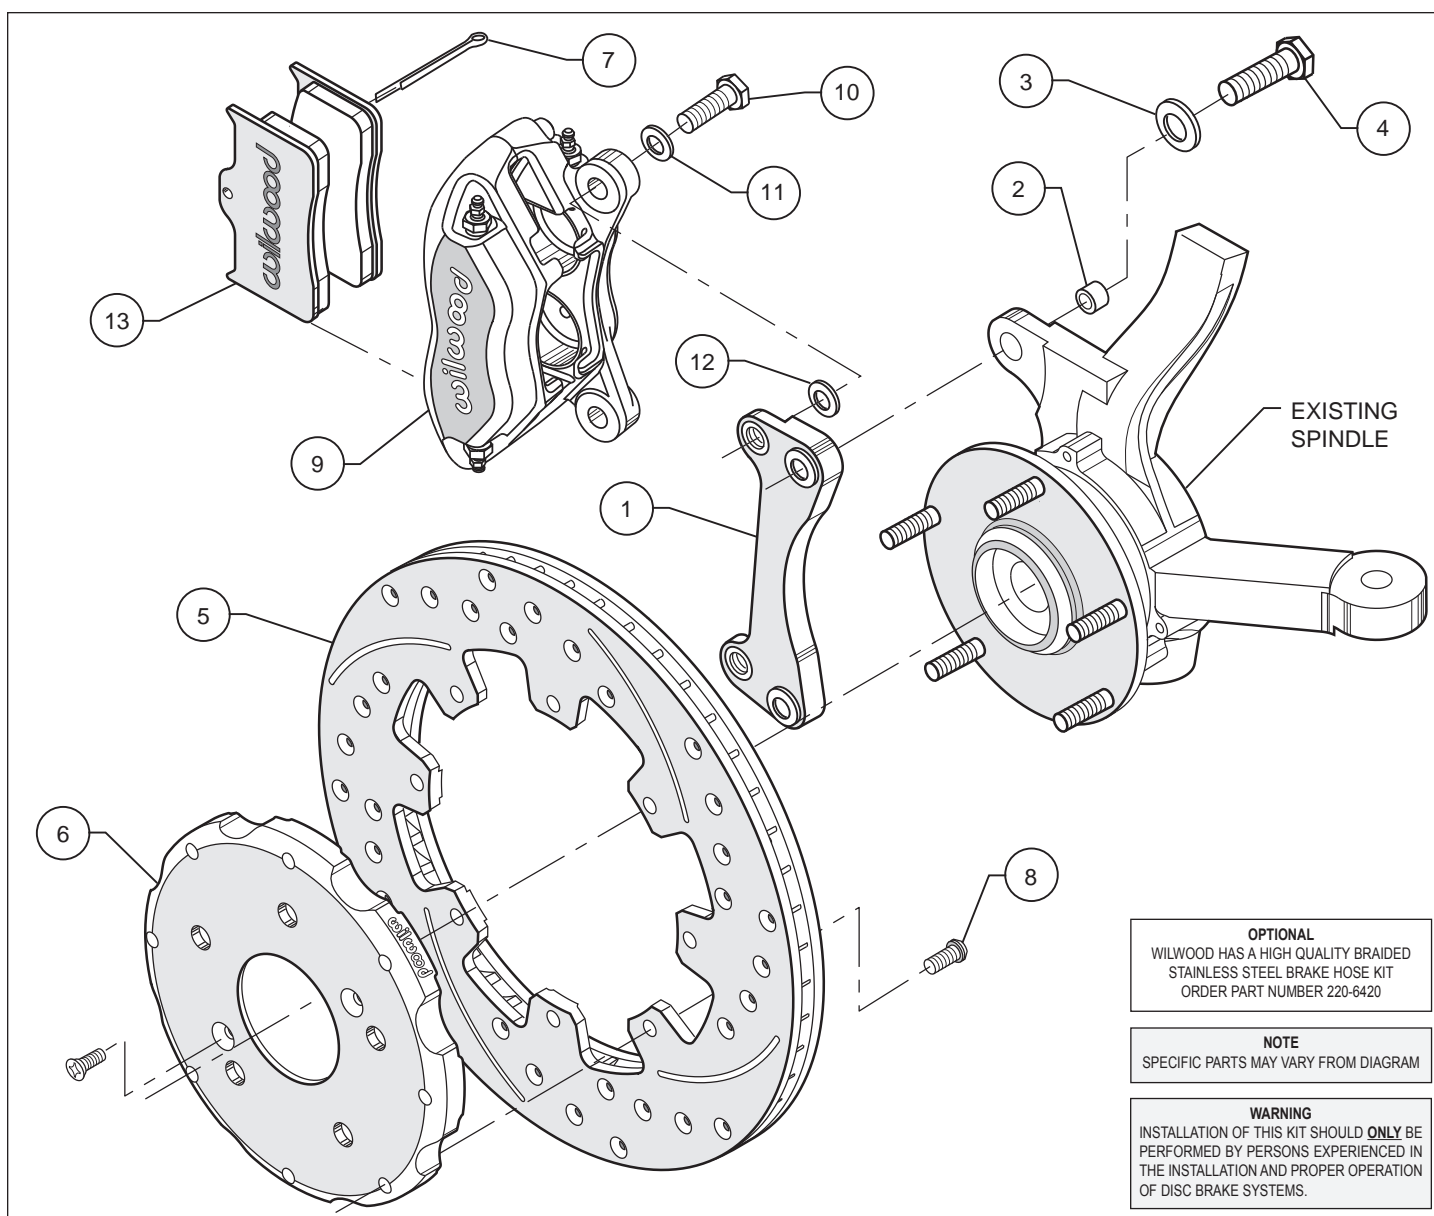
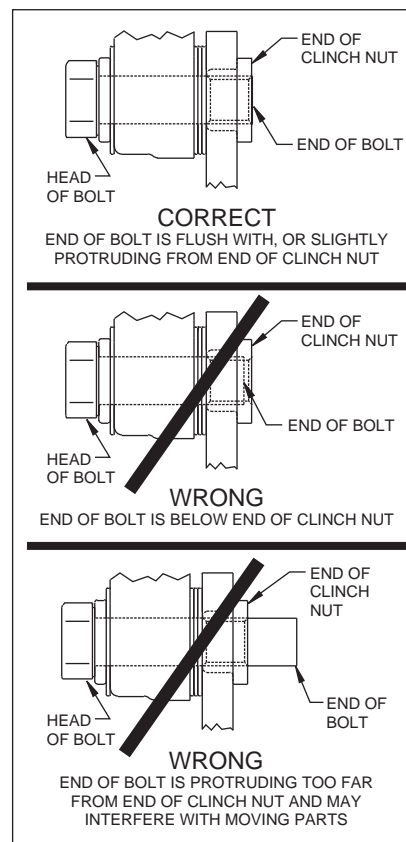

Figure 1. Typical Installation Configuration, Left Hand Application Shown
Figure 3.
- Insert one sleeve (2) each into the holes on the top and bottom of the spindle "ears" where the OEM caliper bracket was removed. Apply red *Loctite*® 271 to the caliper mounting bracket bolt threads (4) before installation of the caliper mounting bracket (1). Install the bracket with the flanged head of the clinch nuts facing outboard, as shown in Figure 1. Slide bolt (4) through washer (3) and into the previously installed sleeve (2), from the backside of the spindle. Finger tighten. Repeat for the lower mounting holes. Torque bolts to 60 ft-lb.
- With the larger I.D. side of the rotor (5) facing away from the hat (6), attach rotor (5) to hat (6) using bolts (8) as shown in Figure 1. Using an alternating sequence, remove bolts (8) one at a time, apply red *Loctite*® 271 to the threads, and torque to 25 ft-lb.
•**NOTE:** Please reference the caution statement at the beginning of the assembly instructions. Mount the caliper (9) onto the caliper mounting bracket (1) using two bolts (10) and two washers (11). View the rotor (5) through the top of the caliper (9). The rotor (6) should be aligned in the center of the caliper (9). If not, loosen the two bolts (10) and adjust the caliper (9) by using 0.035 inch thick shim washers (12). The shim washers (12) should be placed between the caliper (9) and the caliper mounting bracket (1). Finger tighten and recheck alignment. Add as many shim washers (12) as necessary to achieve the correct alignment.
•**NOTE:** The end of the bolt must be flush with or slightly protruding from the head of the clinch nut. See Figure 3. Place spare shims (12) between washer and caliper mounting ear to achieve the proper mounting fastener configuration. Always use the same amount of shims on both the top and bottom caliper mounting bolts (10). Loosen the two bolts (10) and apply red *Loctite*® 271 to bolt threads (10) and torque to 40 ft-lb.
- Install the disc brake pads (13) and secure using cotter pin (7). Repeat this procedure for the other wheel.